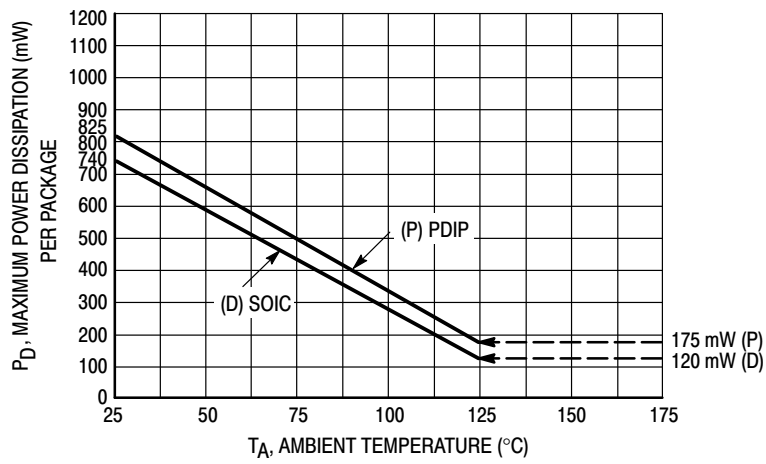

Figure 3. Ambient Temperature Power Derating
3. Temperature Derating: See Figure 3.